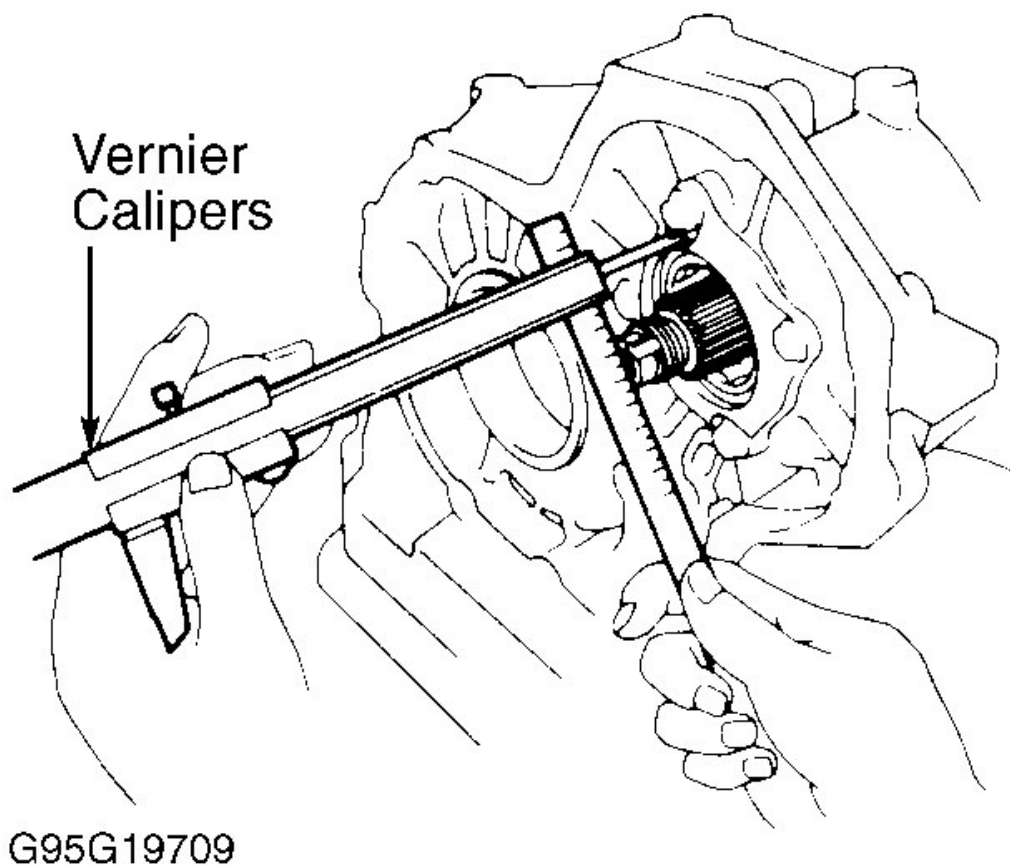

Fig. 55: Measuring Height Of Countershaft
14. Align clutch disc tabs in underdrive clutch. Install countershaft assembly. Check countershaft height. Measure distance from tip of countershaft to bolt seat of clutch support. See **Fig. 55** . Countershaft height should be 1.193-1.280" (30.30-32.50 mm).